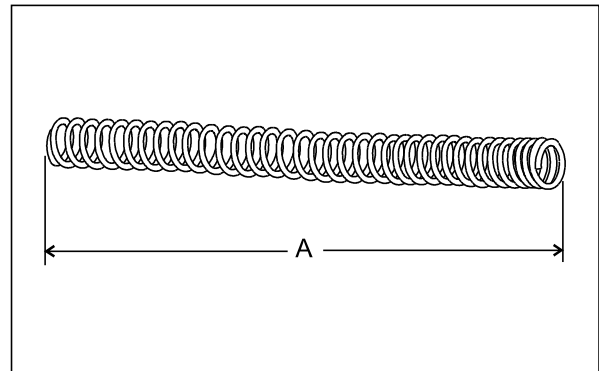

Fig. 6.63
- Measure the free length (A) of the spring front fork. If the length is shorter than service limit or deformation of spring, replace it with a new one. (Fig. 6.63)